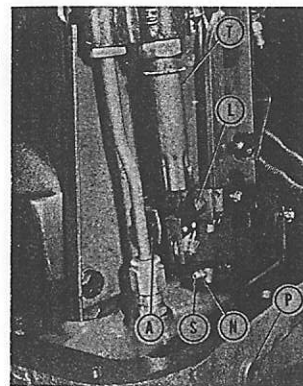
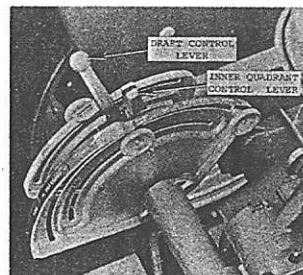
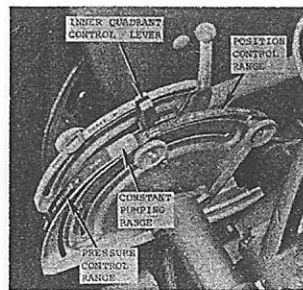
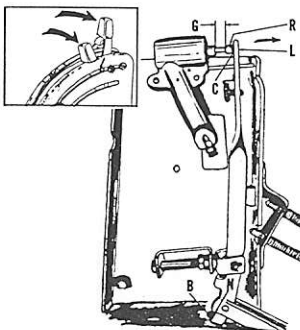

Fig. 270—Lever support bracket and internal linkage showing points of adjustment.
Fig. 271—View of hydraulic control quadrant used on models equipped with Pressure Control.
Fig. 272—Inner quadrant control lever operates the position control range and pressure control range as shown.
Fig. 282—Adjusting position control linkage. Inset shows proper setting of control levers on models without pressure control.
On models with Pressure Control, main pump pressure can be tested by installing a suitable pressure gage in pipe plug opening (P—Fig. 270) in hydraulic lift cover. With gage installed and engine running at slow idle speed, move draft control lever (Fig. 271) to top of quadrant as shown in Fig. 272. Move inner quadrant control lever fully forward to low end of pressure control range. Gage pressure should read approximately 20 psi.
To make the adjustment, remove plug (P—Fig. 270) from either side of lift cover and install a 3000 psi capacity pressure gage. Move draft control lever to transport position and inner quadrant control lever to "Constant Pumping" position. Start and idle the engine, then turn pressure
Gage pressure should be 3100 psi for MF165 or MF150 High Clearance Diesel; or 2650 psi for other models. If it is not, turn pressure adjusting tube (T—Fig. 270) either way as required until the correct reading is obtained.
To adjust the position control linkage, refer to Fig. 282. Move draft control lever to "Up" position and position control lever into contact with transport stop as shown in inset and block the draft response plunger (R) in extended position as indicated for draft linkage adjustment. Apply a 3 lb. pull to end of vertical lever (L) in direction of arrow and turn adjusting screw (B) in or out as required until clearance (C) between plunger (R) and lever (L) is 0.000-0.002. Tighten locknut (N) to secure the adjustment. Refer to Fig. 270 for view of linkage on models with pressure control.